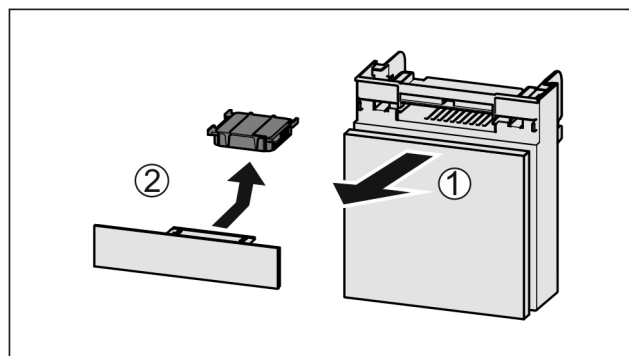

Fig. 106
- Pull out the compartment *Fig. 106 (1)*.
- Remove the carbon filter *Fig. 106 (2)*.